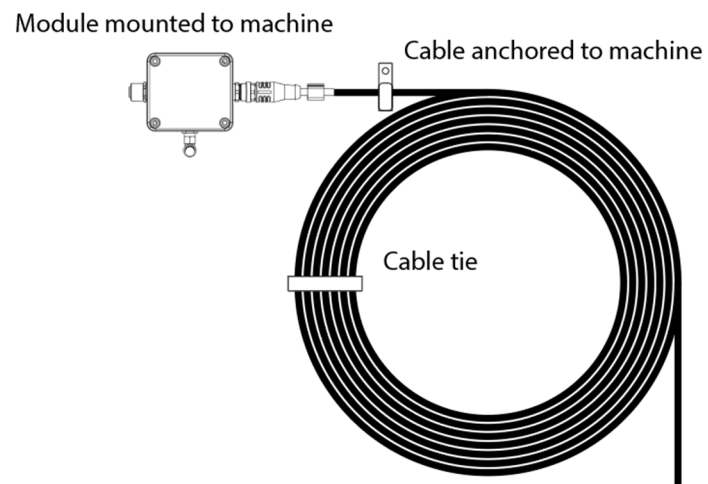

Figure 17.- Cable securing process
- Secure the cable to the machine 120-150mm away from the mounting location using an appropriately sized cable clamp. Do not coil the cable with a bending radius of less than 100mm (Figure 17).